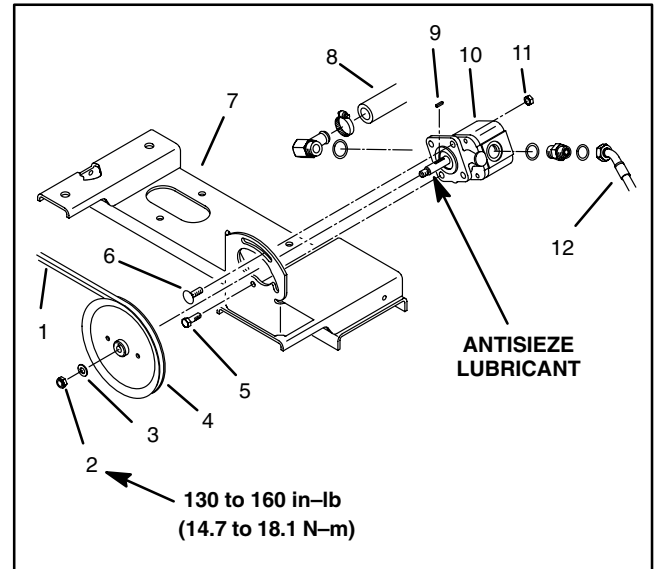

Figure 22
Removal (Fig. 22)
5. Remove gear pump from mount using Figure 22 as a guide.
Installation (Fig. 22)
1. Install gear pump to mount using Figure 22 as a guide and using the following instructions: